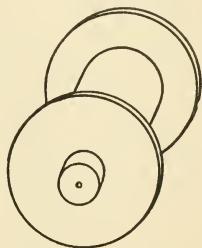
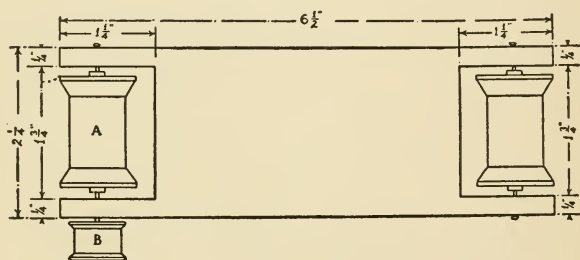

FIG. 359. — Spool Wheels.
FIG. 377. — Top View of Wooden Frame.
inch board twelve inches long by two and one-quarter inches wide, and, after rounding the ends as shown in the drawing, cut a mortise at *A* and *B* two and three-eighths inches from either end. Procure two one and one-half inch spools for wheels, and drive a wooden peg through the hole in each, cutting off the ends so they project a little beyond the hole, as shown in Fig. 359. Then bore four holes in the edges of the truck-bed with a gimlet at *C*, *D*, *E*, and *F* (see drawing), and, after setting the spools in mortises *A* and *B*, pivot them in place with small finishing nails driven into the wooden pegs. These nails should fit loosely in the gimlet holes. In order to drive them into the exact centres of the spools, it is best to locate
**The Frame** of the automobile, as that is about the simplest way, and makes a light, easy-running vehicle. The bed will be cut of a different pattern, however, as will be seen in Fig. 377. Lay out the piece to the dimensions shown upon this drawing, and then cut it out, making a mortise in each end for the wheels to fit in. The spool wheels should be mounted in the
same manner as those of the railway cars, for which see Fig. 359, Chapter XXV, and the directions upon page 335. One end of spool *A* should be pivoted with a longer finishing nail than those used for the other pivots, so that when driven in place about half an inch will project beyond the frame. A small silk spool should be fastened upon this for a belt-wheel (see *B*, Fig. 377). The hole in one of these spools is about three-sixteenths of an inch in diameter, so, in order to make it fit tightly upon the nail, it is necessary to fill in around the nail
broken out. A small silk spool, such as *B* (Fig. 377), should be fastened upon the small pivot which originally operated the clock's hands, for a belt-wheel. Lay the works upon a table with the face-side down, and, after centring the hole of the spool upon the pivot, fasten it in place with sealing-wax in the same manner as you attached spool *B*.